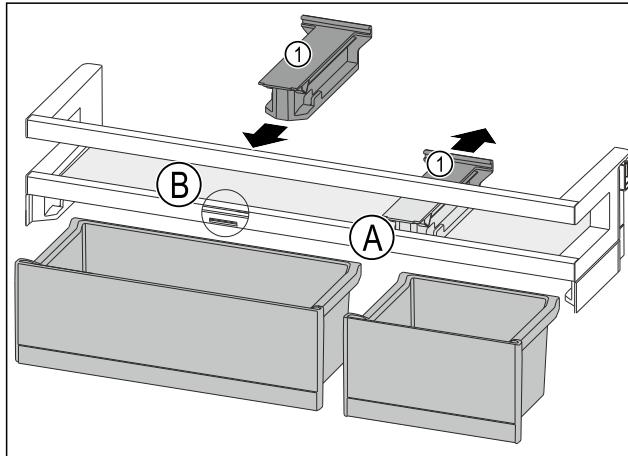

Fig. 113
- Take off the holding part Fig. 113 (1) in position Fig. 113 (A) backwards.
- Insert the holding part Fig. 113 (1) in position Fig. 113 (B).